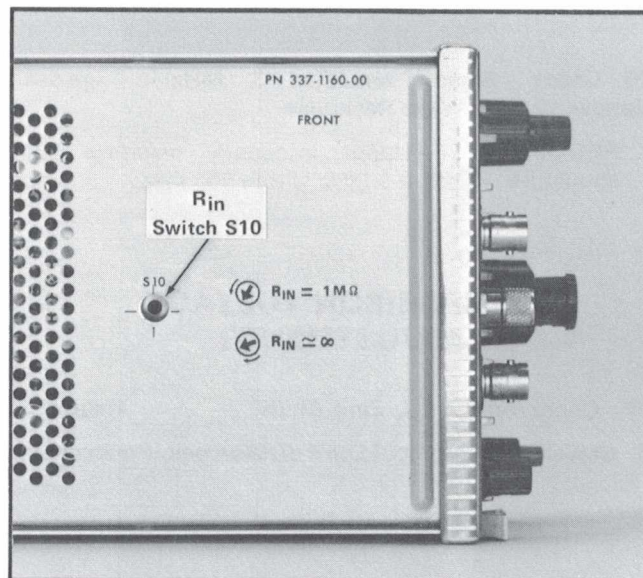

Fig. 5-1. Location of the R_{in} switch S10 on the Attenuator board.
1. Set the 7A13 R_{in} switch, S10 (see Fig. 5-1), to the $R_{in} = 1\text{ M}\Omega$ (counterclockwise) position.
R_{in} (internal switch, S10, see Fig. 5-1)	$R_{in} = 1 \text{ M}\Omega$ (see Preliminary Procedure, step 1)